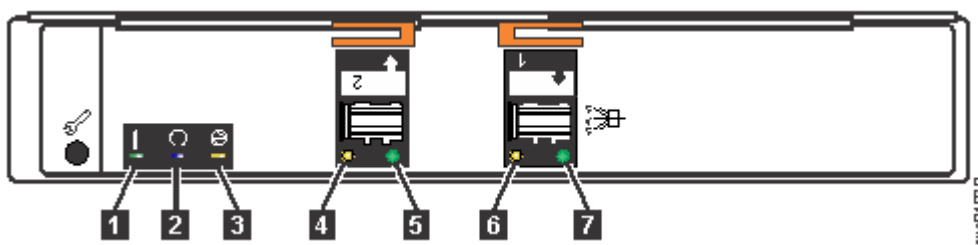

Figure 159. Expansion canister
An expansion canister provides SAS connectivity between the 5U expansion enclosure and control enclosure system. If either of the two expansion canisters has a failure, the other expansion canister assumes the full I/O load. Figure 159 on page 200 shows the features of an expansion enclosure.
3. Release the lower cable management arm to swing it out of the way, as described in Figure 159 on page 200.